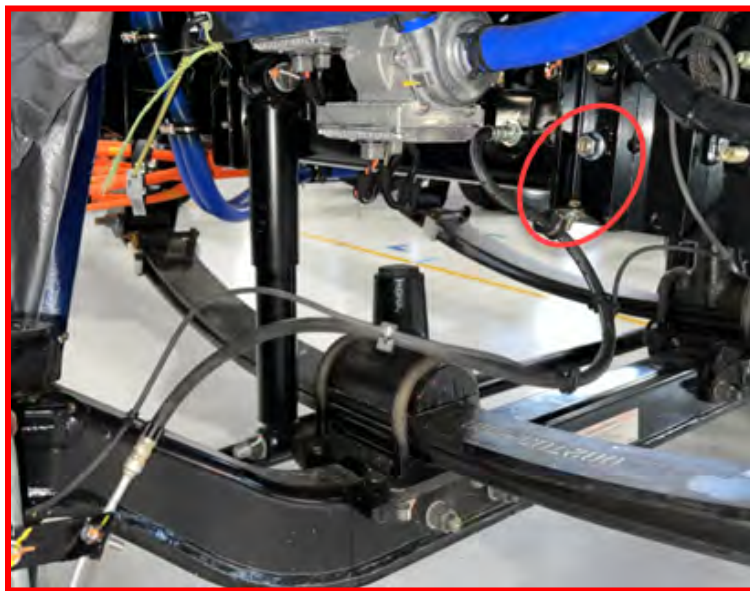

Figure 14 - Passenger Side Brake Line Bracket Mounting Location
6. Locate the protruding fastener on the passenger side frame rail (Figure 14). Install the passenger side brake line bracket using the M10 nut (HD30-HH-M0007). Torque to 90 Nm.